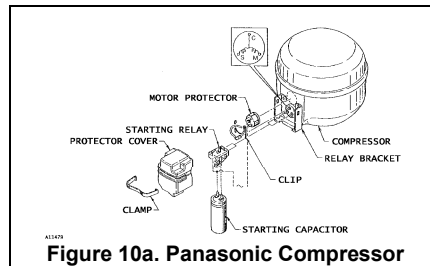
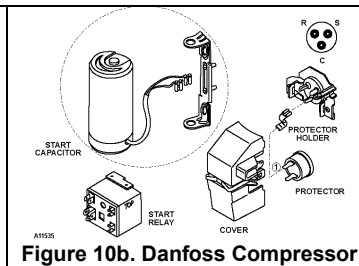
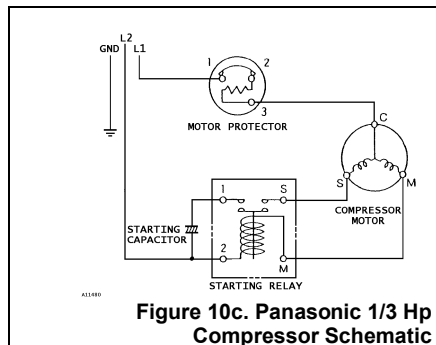
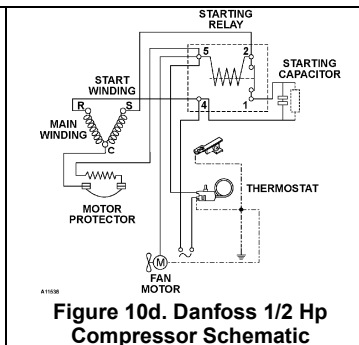

Figure 10a. Panasonic Compressor
Figure 10b. Danfoss Compressor
Figure 10c. Panasonic 1/3 Hp Compressor Schematic
Figure 10d. Danfoss 1/2 Hp Compressor Schematic
**Panasonic.1/3 HP** - Unscrew lead terminals and remove relay from compressor. (Figure 10a and Figure 10c).
4. **Check compressor windings** using ohmmeter. Refer to Table 2, Figure 10a, Figure 10b, Figure 10c and Figure 10d..